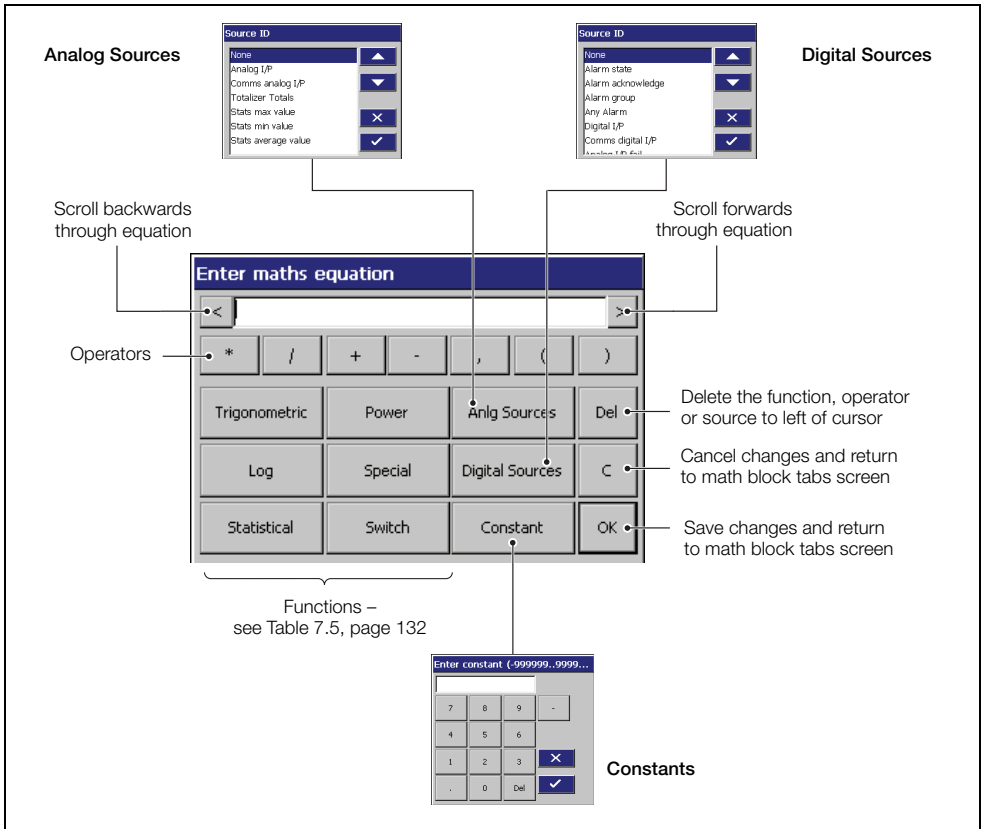

Fig. 7.19 Math pad
- Up to 24 math equations can be configured individually using the math pad – see see Fig. 7.19, page 133.
Equation	Create the equation using the math pad – see Fig. 7.19, page 133.